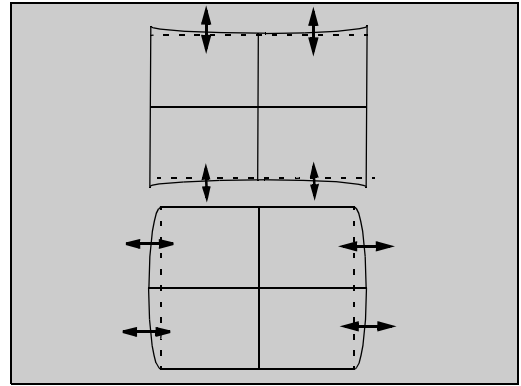

Figure 46. **H & V PIN adjustment**
10. Adjust V_PIN by pressing CH up-down (see figure 46).
30. Adjust horizontally and vertically (see figure 46)